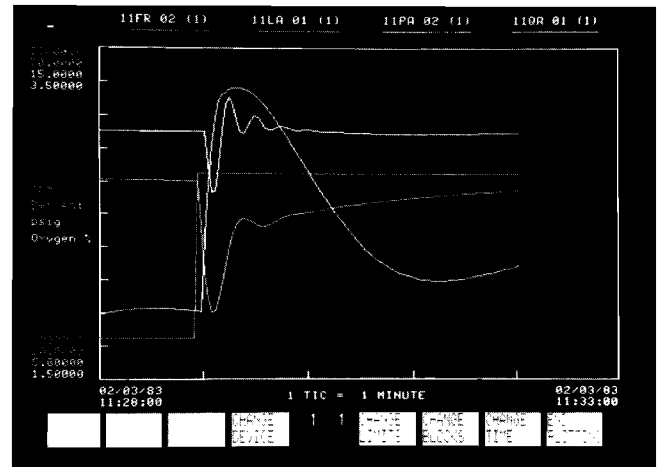

Figure 4. Historical Trend
**Historian:** The historian performs data logging and retrieval. All input points and block outputs are logged to disc at the same, specifiable rate. Magnetic tape backup is supported. The historian provides graphical trend displays and color hard copy plots, showing up to four variables and spanning up to 1000 time samples. Figure 4 shows an historical trend display. Database access routines make more data available for analysis and reporting programs.